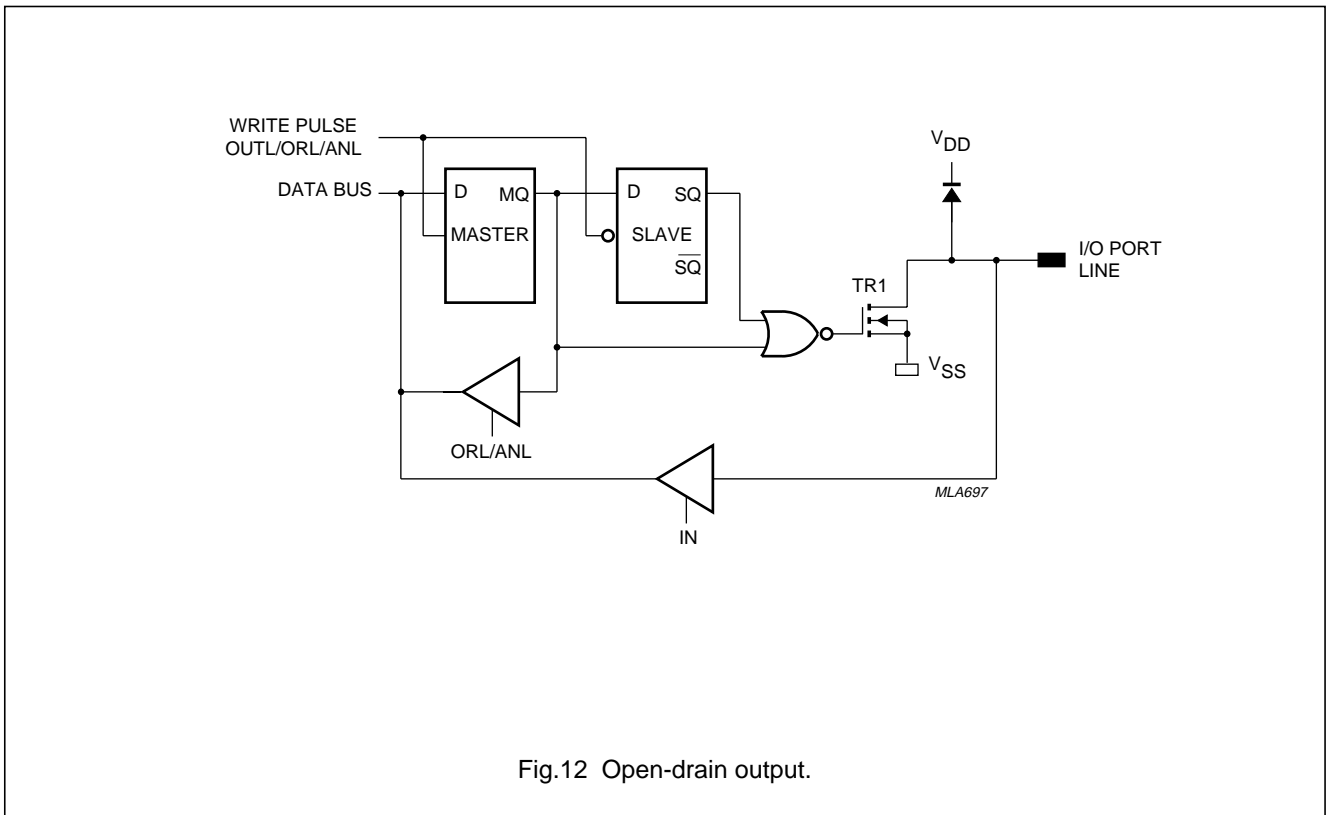

Fig.12 Open-drain output.
2. **Open-drain output;** quasi-bidirectional I/O with only an n-channel open-drain output. Application as an output requires connection of an external pull-up resistor (see Fig.12). If unused, an open-drain output should be tied to V_{SS} . This keeps the input path from floating, thereby avoiding undesirable current flow through input stages.
configuration 2	open-drain output (see Fig.12)